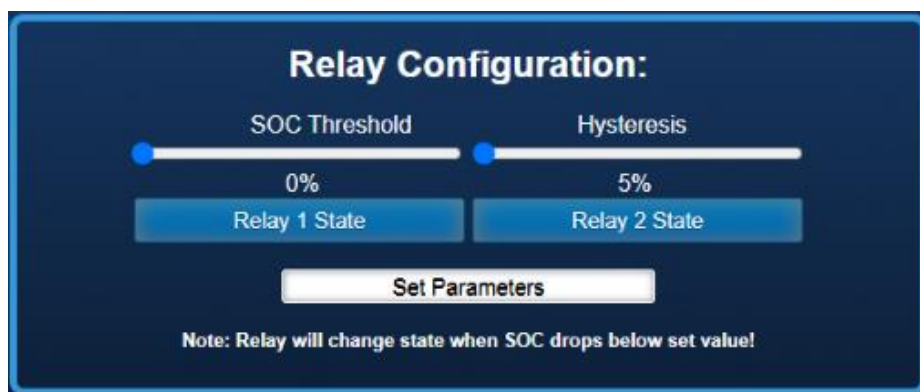

Figure 2
2. **Battery discharge configuration:** A discharge SOC threshold and hysteresis can be set on the BMAC local monitoring page (Accessible through 192.168.4.1). Figure 2 shows the "Relay Configuration" section that can be found at the bottom of the local monitoring page. Slider values can be changed and will be saved when the "Set Parameters" button is clicked. The page will auto-refresh when configuration was successful.